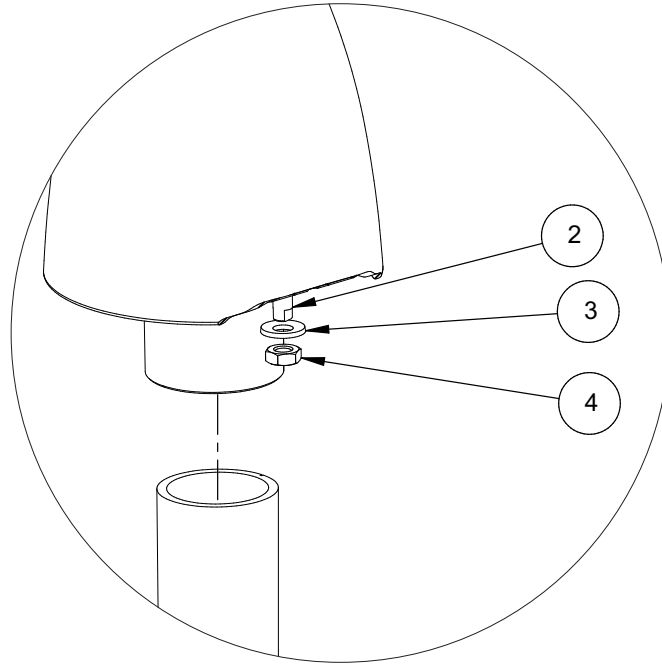

Figure 8.6: Grounding Terminal Assembly
1. Remove the nut (Item 4 in Fig. 8.6) and the safety washer (Item 3).